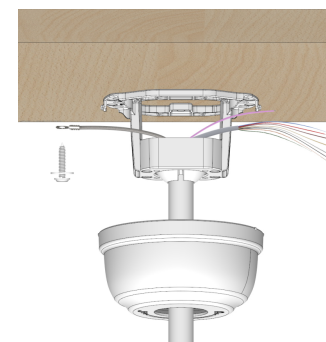

Fig. 5.2
5.2 Attach the other end of the safety cable to a secure location. Fasten the safety cable to the ceiling using a screw and washer (not included), as depicted in Fig. 5.2.